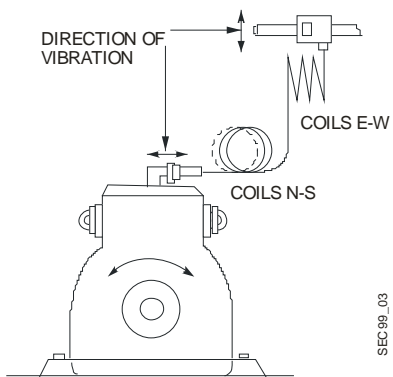

Figure 3: SEC99 Loose Coil Perpendicular Arrangement
- Sometimes two loose coil perpendicular arrangements may be required to dampen vibration from opposite directions. See Figure 3.